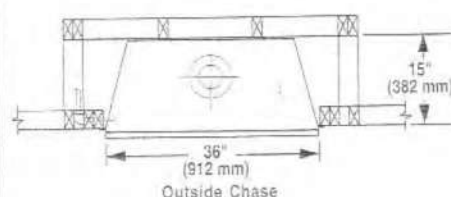

Figure 4
Step 1. Frame appliance enclosure as illustrated in Figures 4 through 7.